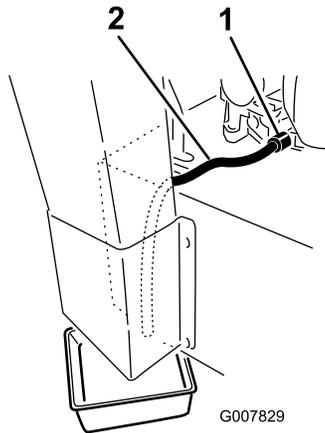

Figure 36
5. Place a pan below the drain hose. Rotate the oil drain valve to allow oil to drain (Figure 36).